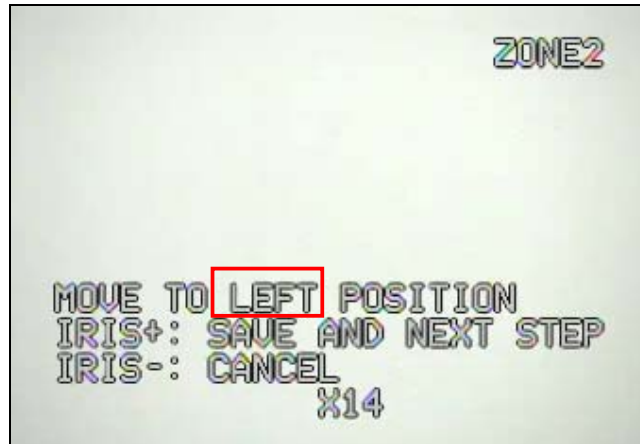

Figure 2-41 Areas setting – Left Position Setting Window
3. Once the title is inputted, use ▶ button/ ◀ button to go “Range” section Range section will flash as this time. Click “Enter” button to enter Left Position Setting window (See Figure 2-41).